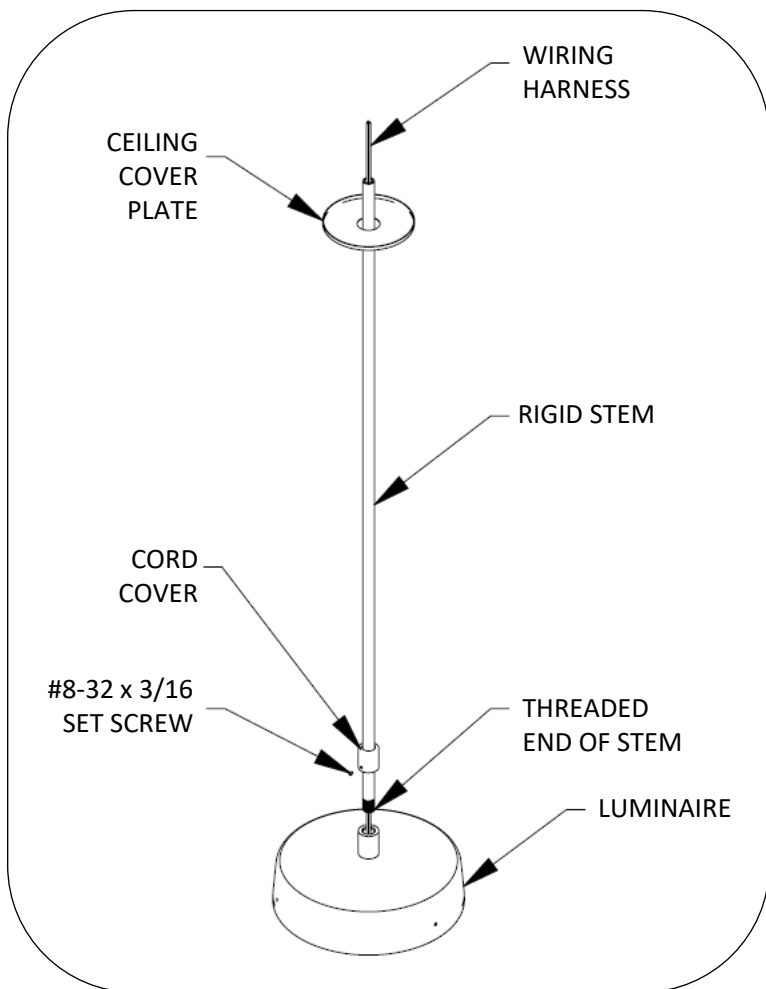
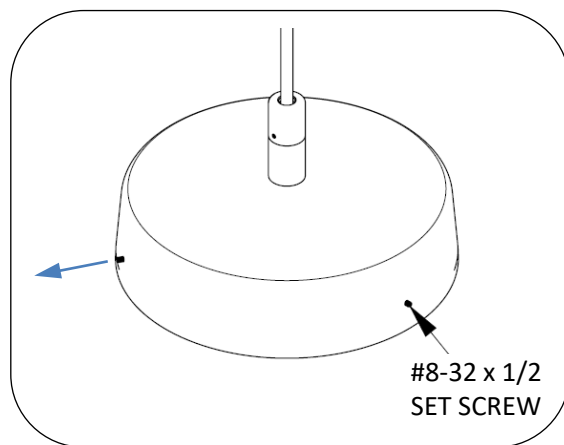

Fig. 1 – secure mt plate and gasket to junction box
Fig. 2 – back out set screws
3. Slide components over cord as shown in Fig. 1. Use of thread patch is recommended when attaching stem to luminaire.
4. Attach cord grip cover using (1) 8-32 x 3/16" set screw.
7. Note: luminaire ships assembled. To reduce weight of fixture during installation, the luminaire cartridge can be temporarily removed. To remove luminaire cartridge, see Fig. 2. Back out three set screws to loosen dome. Disconnect the wiring harness plug. Set cartridge aside. Do not fully back out set screws from dome.